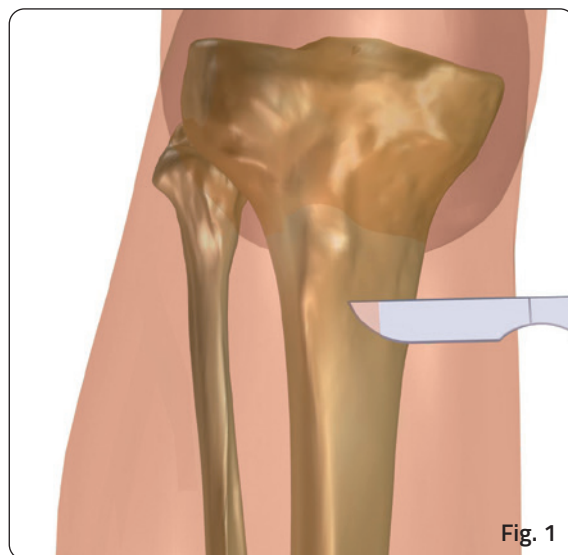

Fig. 1
1. Make a 15mm incision through skin and deep fascia. Use blunt dissection to reach the underlying bone (**Fig. 1**).